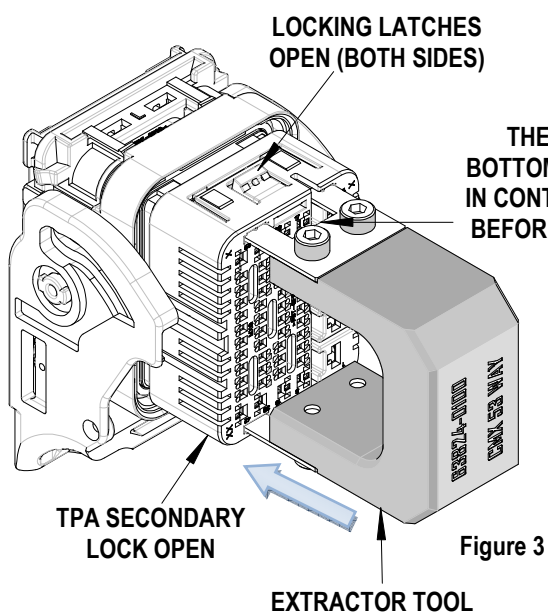

Figure 3
1. Insert the extractor tool into the (2) side slots of the (TPA) secondary lock on each sides. See Figure 3.